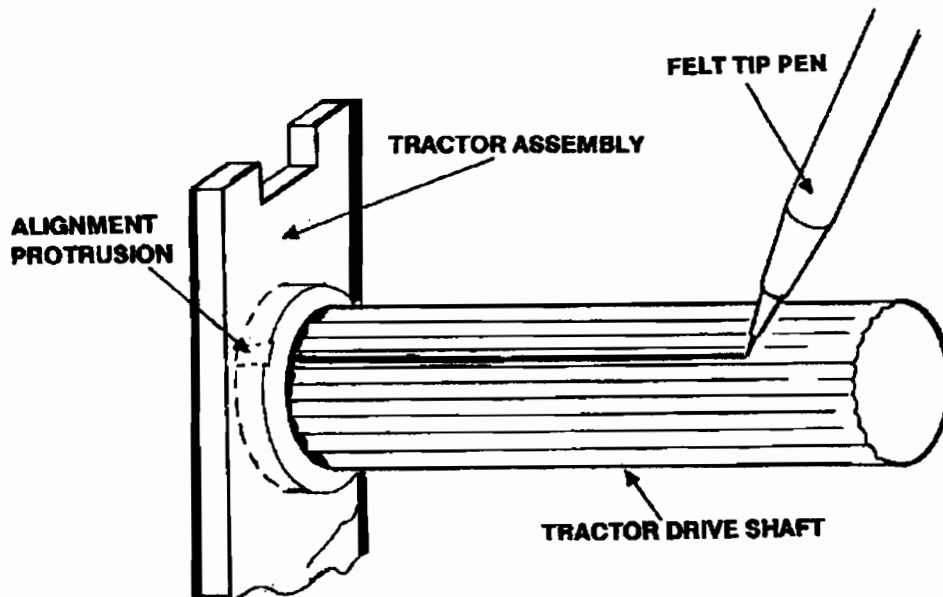

Figure 8. Aligning the Spline Groove with Left and Right Tractors
- b. Using a felt-tip pen, mark the spline groove of the shaft that passes directly beneath the small protrusion on the tractor's drive hub (see Figure 8).